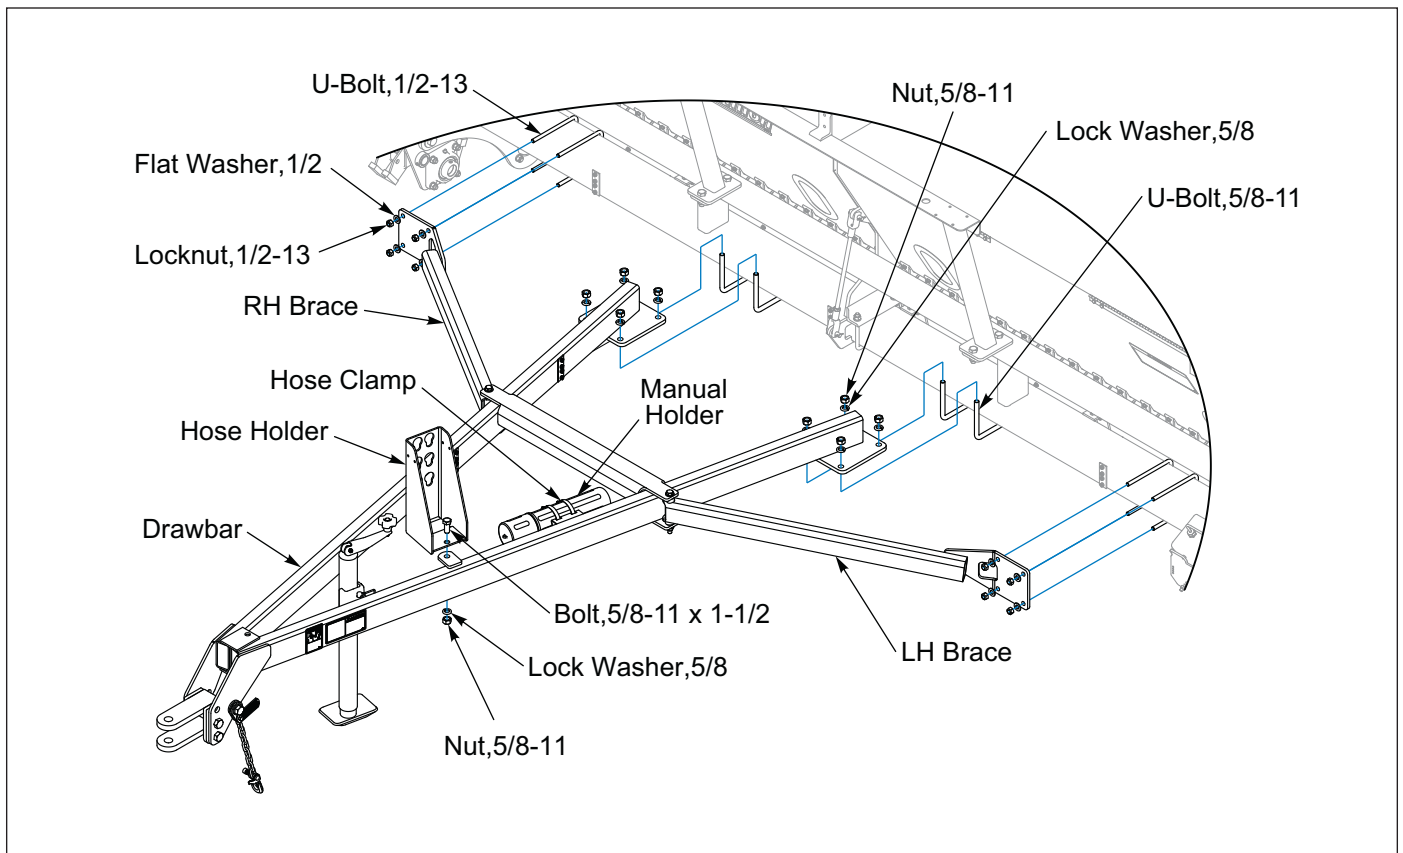

Figure 2-11: 12FT Drawbar (Before 06/2026)
2. Center Drawbar in relationship with the Seed Box Center Bracket. Attach Drawbar to Seeder Frame Tube with 5/8-11 U-Bolts, Lock Washers and Nuts. Align Braces with the front of the Seeder Frame Tube and insert the Hydraulic Hoses through the Brace Bracket opening. Attach Braces to Seeder Frame Tube with 1/2-13 U-Bolts, Flat Washers, and Locknuts. **See Figure 2-11.**